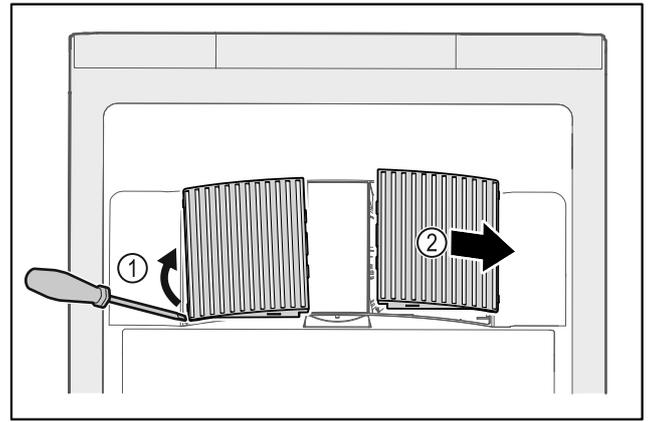

Fig. 144
- ▶ Carefully lever out fan covers from the side Fig. 144 (1) and remove towards the front Fig. 144 (2).